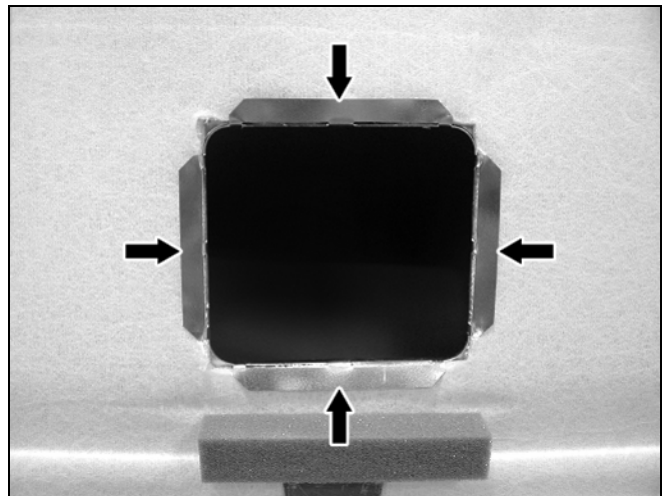

Figure 8
12. Install the headliner cutout frame (Figure 8) by inserting the bendable edges of the frame into the cutout and bending the edges over the headliner top (i.e. the topside of the headliner).
Note: Figure 8 shows the frame edges bent over the topside of the headliner.